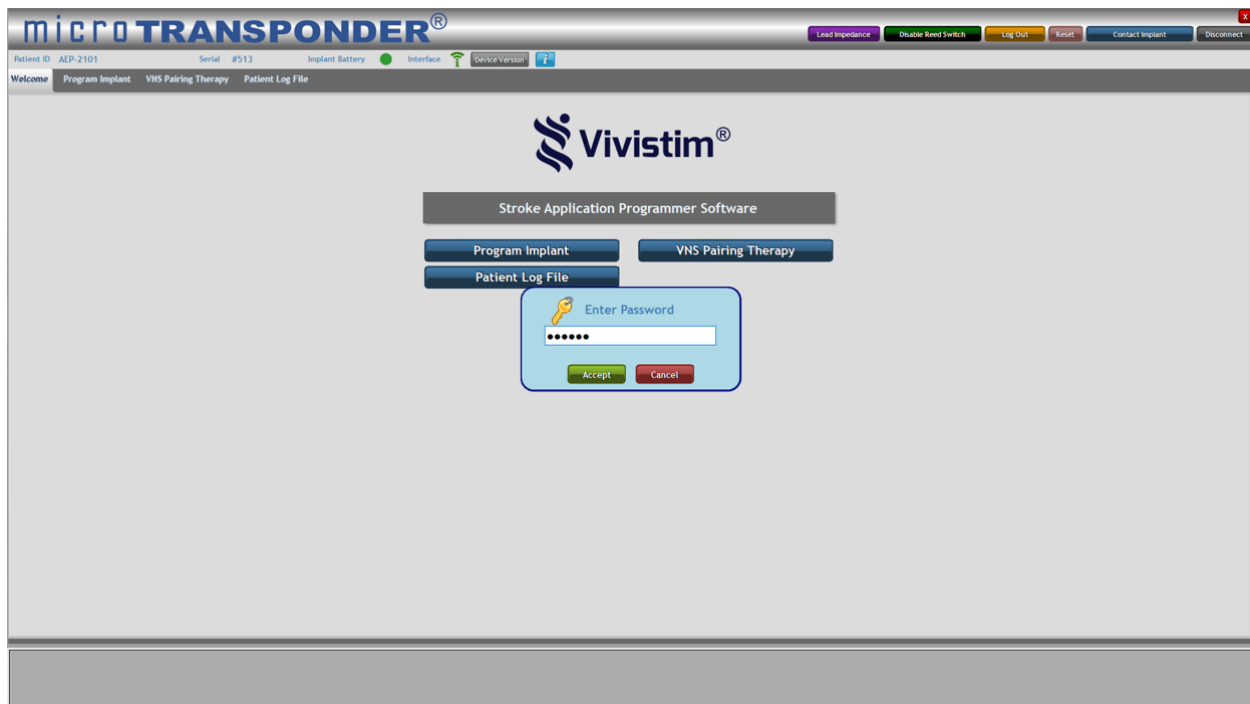

Figure 6.3: Accept Reset
- Select the **Accept** button to complete the reset (see Figure 6.3).